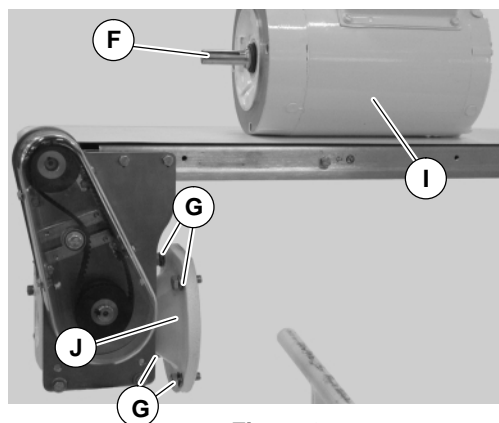

Figure 35
4. Remove screws and washers (G of Figure 35). Detach motor (I) from gear reducer (J). Retain motor output shaft key (F).